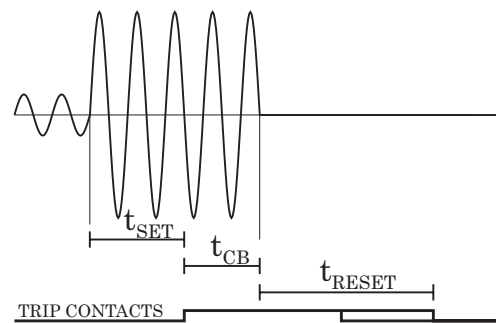

Figure 6.4: Reset time is the time it takes the trip or start relay contacts to open after the fault has been cleared.
Figure 6.4 shows an example of reset time i.e. release delay, when the relay is clearing an overcurrent fault. When the relay's trip contacts are closed the circuit breaker (CB) starts to open. After the CB contacts are open the fault current will still flow through an arc between the opened contacts. The current is finally cut off when the arc extinguishes at the next zero crossing of the current. This is the start moment of the reset delay. After the reset delay the trip contacts and start contact are opened unless latching is configured. The precise reset time depends on the fault size; after a big fault the reset time is longer. The reset time also depends on the specific protection stage.